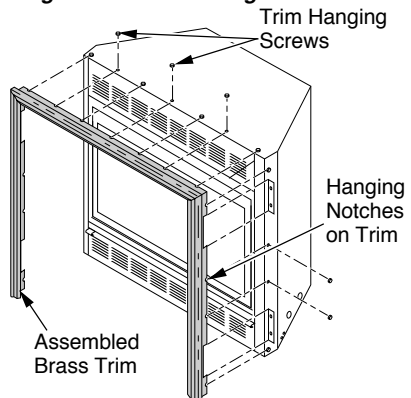

Figure 39 - Attaching Brass Trim to Fireplace (EFP33PR Shown)
8. Tighten trim hanging screws (#10 x 6.25 shoulder) into holes in cabinets. Place the assembled trim onto fireplace cabinet. Align hanging notches on trim with hanging screws on side of fireplace (see Figure 39). Push trim firmly into place, sliding hanging notches over hanging screws.